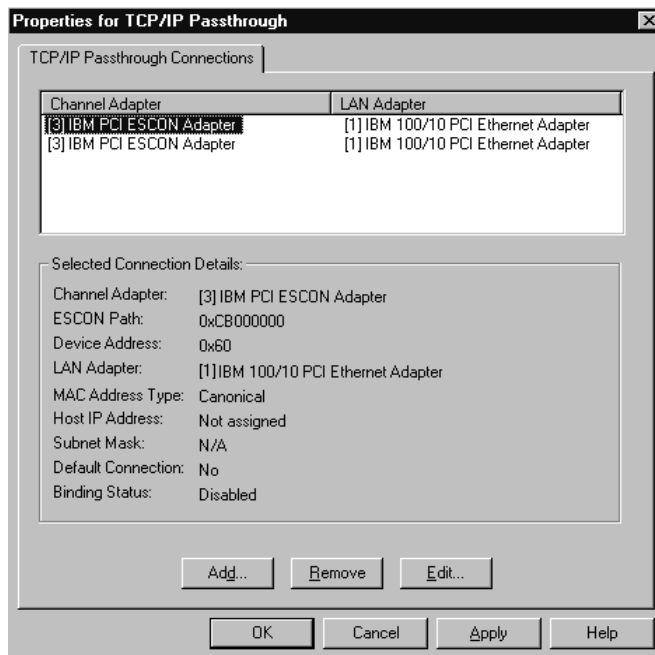

Figure 9-15. Removing a Connection
1. To delete a connection from the TCP/IP Passthrough configuration simply highlight the connection you wish to delete (as shown in Figure 9-15) and click **Remove**.